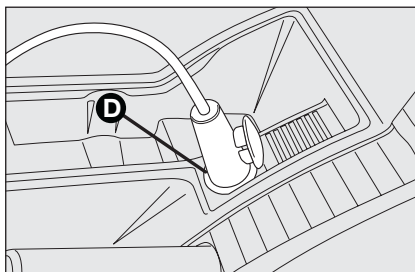
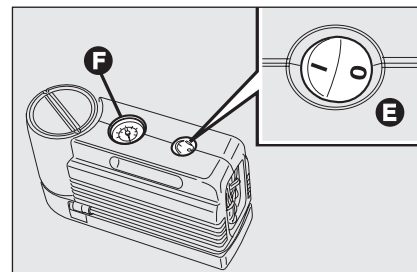

fig. 16
fig. 17
- make sure the compressor switch **E-fig. 17** is set to **0** (off), start the engine and fit plug **D-fig. 16** into the cigar lighter outlet and then turn on the compressor by setting switch **E-fig. 17** to **I** (on). Inflate the tyre to the pressure specified in paragraph "Cold tyre inflation pressure" in section "Technical specifications". Check tyre pressure on gauge **F-fig. 17** with compressor off to obtain precise reading;